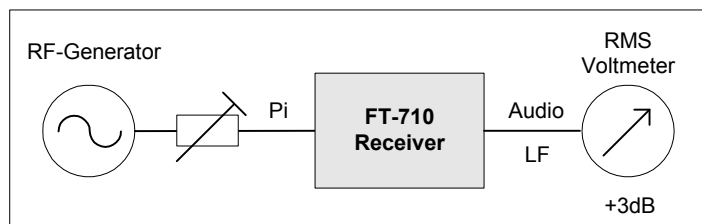

Figure 4: Measurement setup to determine the sensitivity
The sensitivity is defined as the size of the receiver noise floor (MDS, Minimum Discernible Signal). If a CW signal is applied to the input of the receiver whose level (Pi) raises the noise floor of the receiver by 3dB (voltage increase at the RMS voltmeter by a factor of 1.414), then the power of the signal according to  $(S+N)/N = 2$  corresponds to the noise floor of the receiver. Set the overlay tone (LF) at the loudspeaker to approx. 700Hz. For this measurement, a RF generator, a switchable attenuator and a calibrated RMS-voltmeter are required (**Fig. 4**).